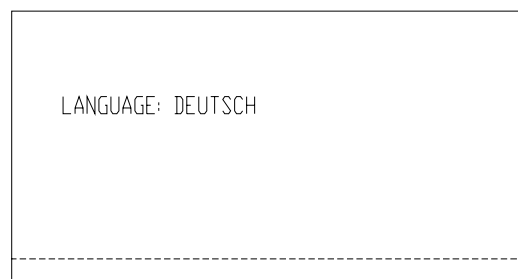

Fig. 55
- The display shows as the first suggestion: LANGUAGE DEUTSCH (fig. 55).